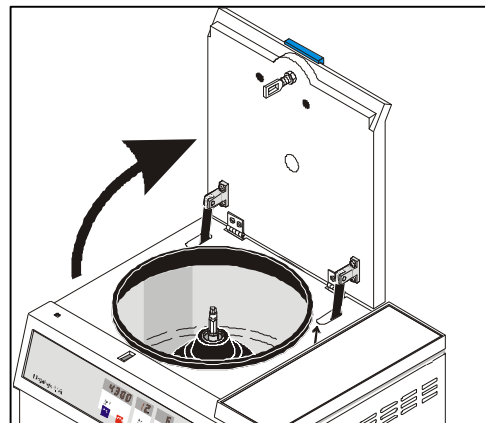

Figure 1
5.1.1 Front Panel (201)
- Open the lid (Figure 1).
- Unscrew the two Phillips screws (132) forwards from the lower edge of the front Figure 1 panel.
5.2.2 Lid (110)